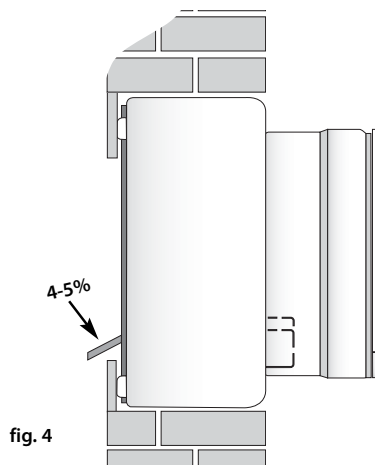

fig. 4
**IMPORTANT:** make sure that the downward inclination of the condensate drainage outwards is in the range of from 4 to 5% (fig. 4): open the unit's front panel and slowly pour water into the internal unit's condensate collection tray and then make sure that the pipe prepared above drains this water correctly.